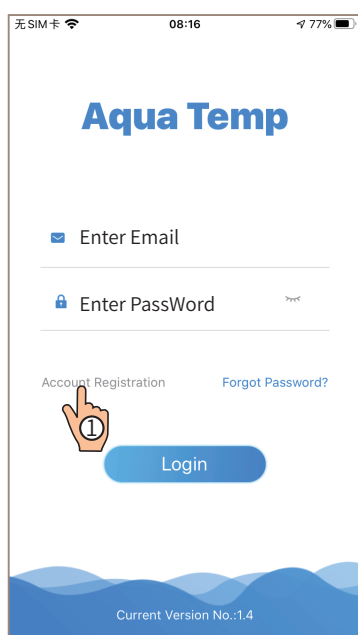

Fig.3 Login interface
1.Account Registration: To register an account, click ① (Fig.3) to jump to the Account Registration interface, fill in the relevant information and click ② to receive verification code, while completed the application information, click ③ to read the details of the Privacy Policy, then click ④ to agree, and click ⑤, registration is done.